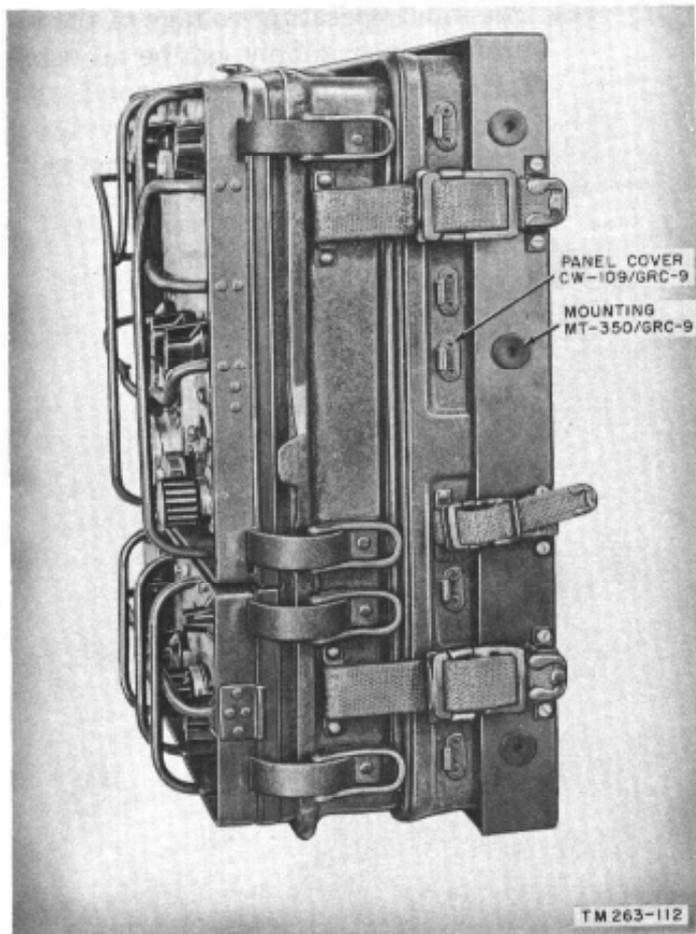

Figure 37. Receiver-transmitter mounted for vehicular use.
*c.* Remove Panel Cover CW-109/GRC-9 from the receiver-transmitter (par. 32*a*(1)) and replace the latches on the case to the projections on the receiver and transmitter sections (par. 32*a*(2)). For normal operations, place the cover between the receiver-transmitter and Mounting MT-350/GRC-9 (fig. 37).
**Caution:** When removing the panel cover, be sure to refasten the latches to the receiver-transmitter chassis (fig. 37).